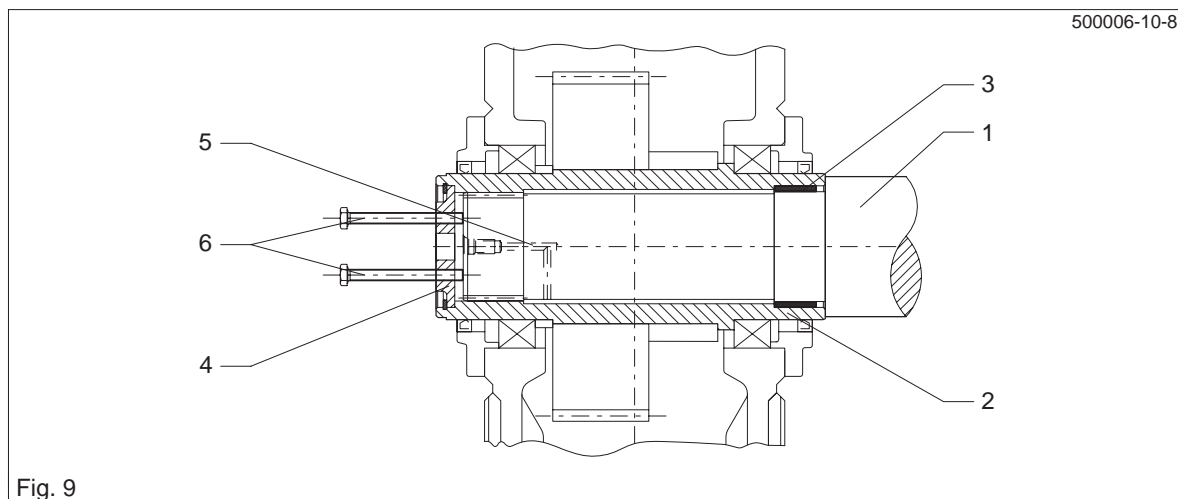

Fig. 9
- Depending on the facilities available on site, the gear unit can be forced off the machine shaft using forcing screws in an end plate (see fig. 9), a central threaded spindle or preferably a Lucas hydraulic lifting unit.